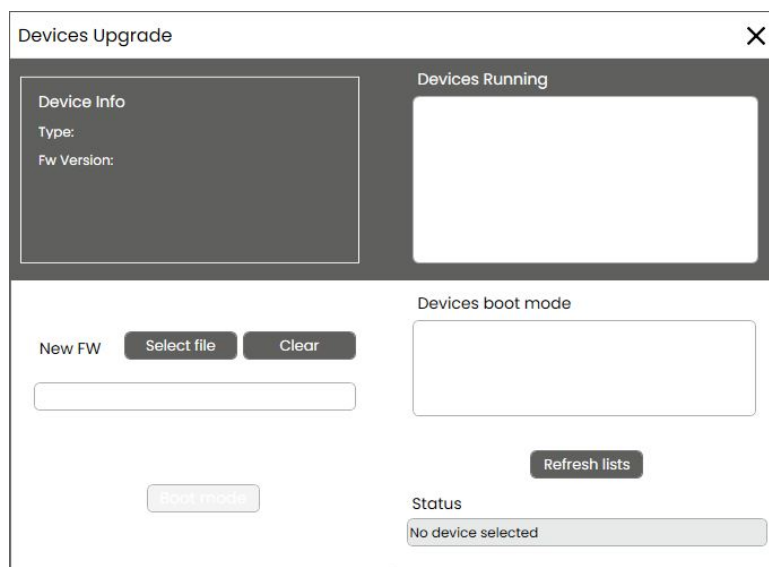

Figure 5.5: Device Firmware Upgrade (USB)
- Device Firmware Upgrade (USB), as shown in Figure 5.5: to manage the USB-connected Camozzi devices that support this functionality.